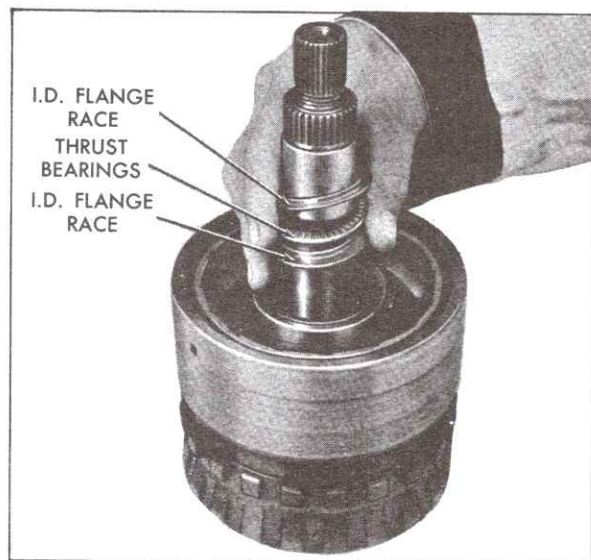

Fig. 7-86 Installing Center Support Races and Thrust Bearing at Sun Gear
15. Lubricate small diameter race with petrolatum and install race on center support with flange facing up, Fig. 7-86.